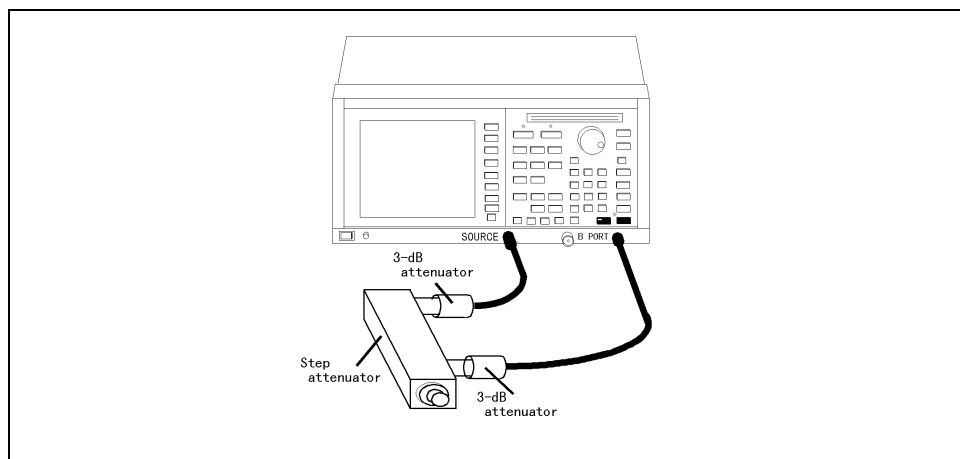

Figure 10-30 Connections for B PORT Measurement for Dynamic Level Accuracy
- (1) Connect two 3-dB attenuator, step attenuator using two RF cables between SOURCE and B PORT shown in Figure 10-30.